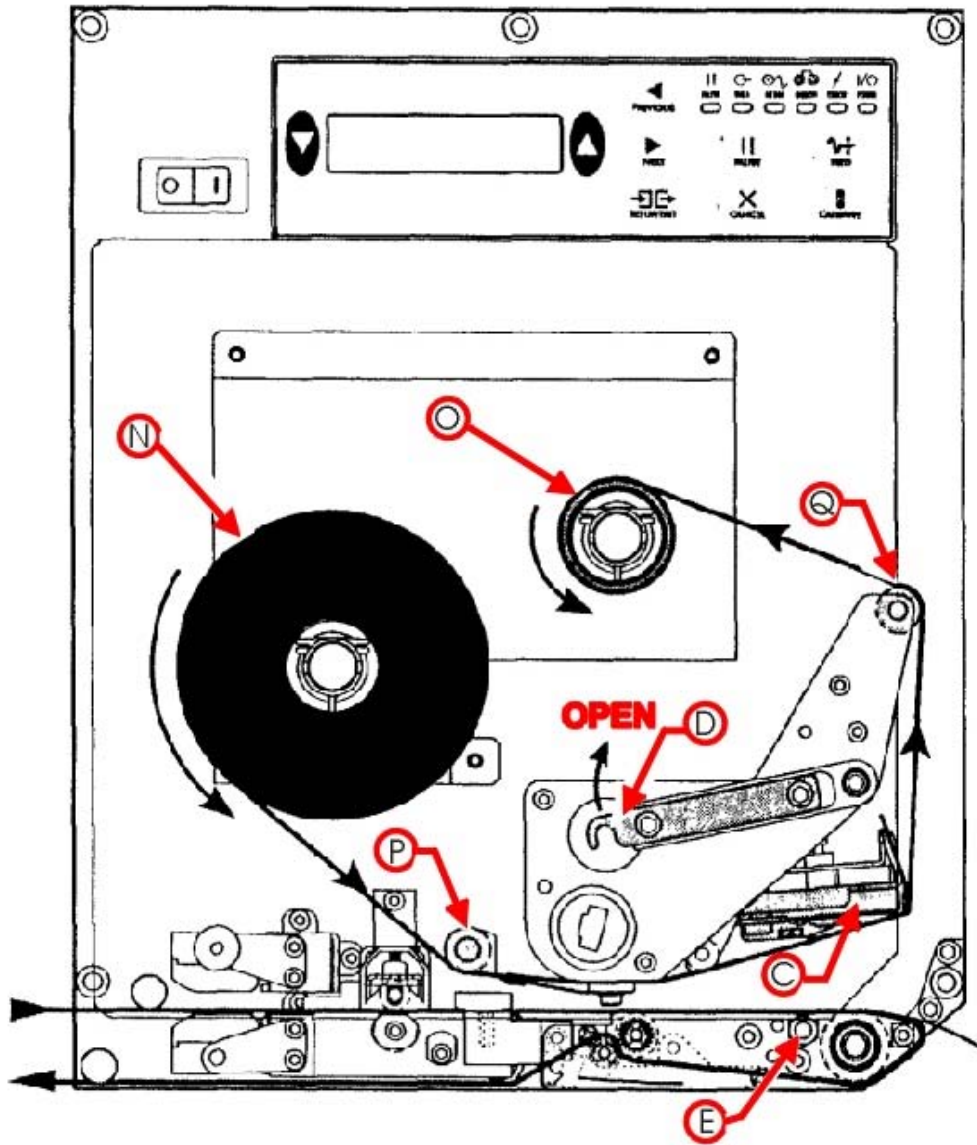

Figure 3-20 Front view of ribbon threaded through Zebra engine
1. Push the ribbon roll onto the supply spindle (N) as far as it will go, so the ribbon feeds as shown in fig 3-20.
2. Install an empty ribbon core onto the ribbon take-up spindle (O).
3. Open the printhead assembly (C), by latching the printhead lock lever (D) from the locking pin (E).
4. Thread the ribbon below the lower guide roller (P), under the printhead assembly (C), and up and over the upper ribbon guide roller (Q) as shown in figure X-XX. *Use caution not to crease or wrinkle the ribbon.*
5. Attach the ribbon to the take-up spindle core (use a label if needed) and wind for several turns in the direction shown in figure 3-20 on next page.
6. Close the printhead assembly (C) by latching the printhead lock lever (D) onto the locking pin (E).